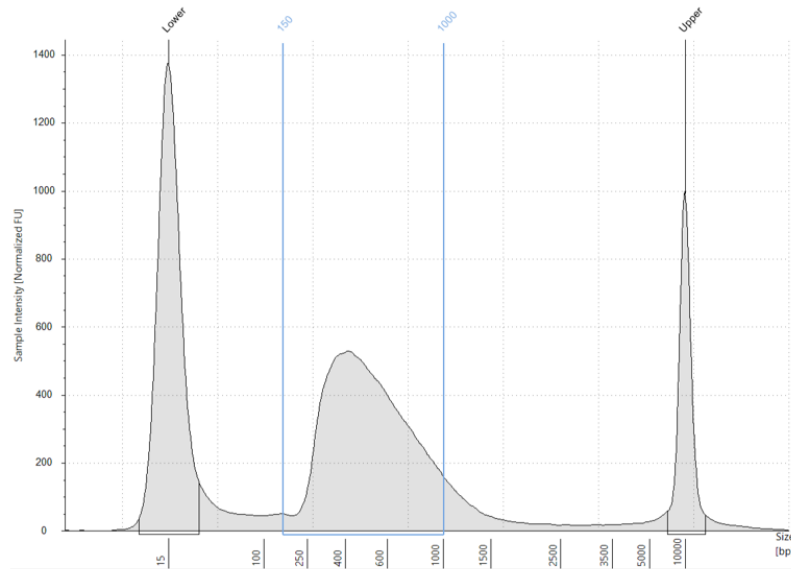

Figure 1. An example of cleaned up library profile from a TapeStation High Sensitivity D5000 ScreenTape assay.
4. To estimate the library concentration, set the Region from 150 bp to 1000 bp. Record sample Concentration (nM) for this region (see Figure 1). This value is only used as an estimate or reference for pooling libraries when necessary. To accurately determine the library concentration, use Qubit measurement instead.